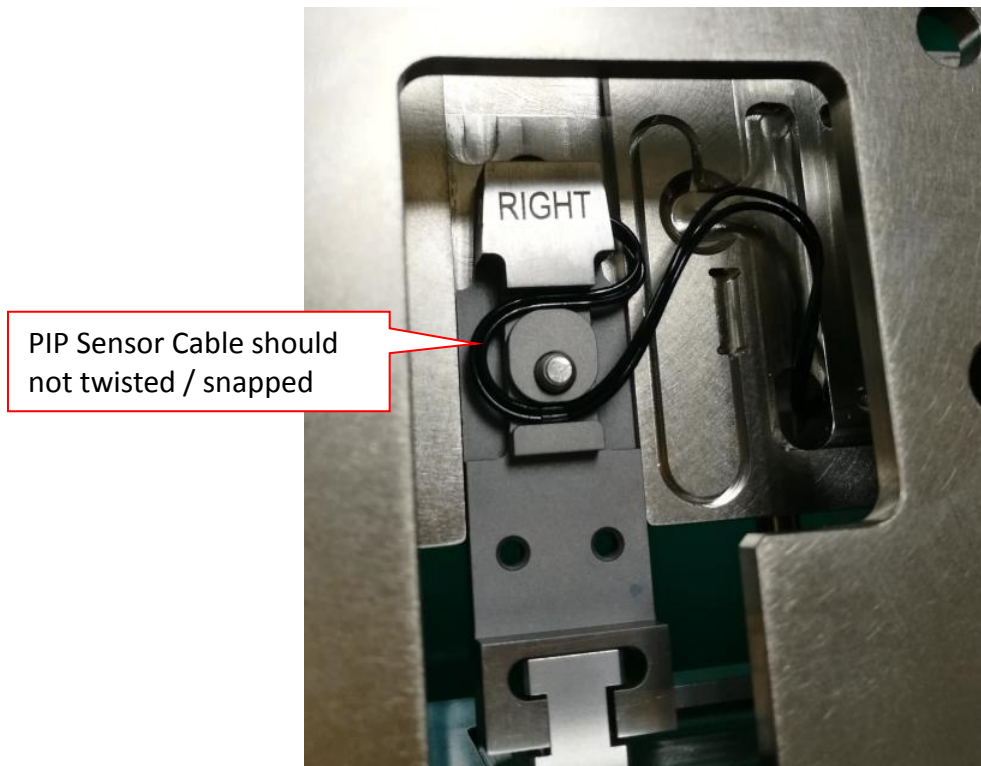

Figure 32 PIP S-shape routing
3. Route PIP Sensor Cable by refer to below routing. May refer to Figure 32